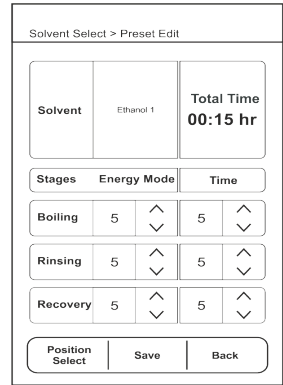

Fig. No. 26.1
c. **Preset Edit Menu** (Ref. Fig. No. 26.1)